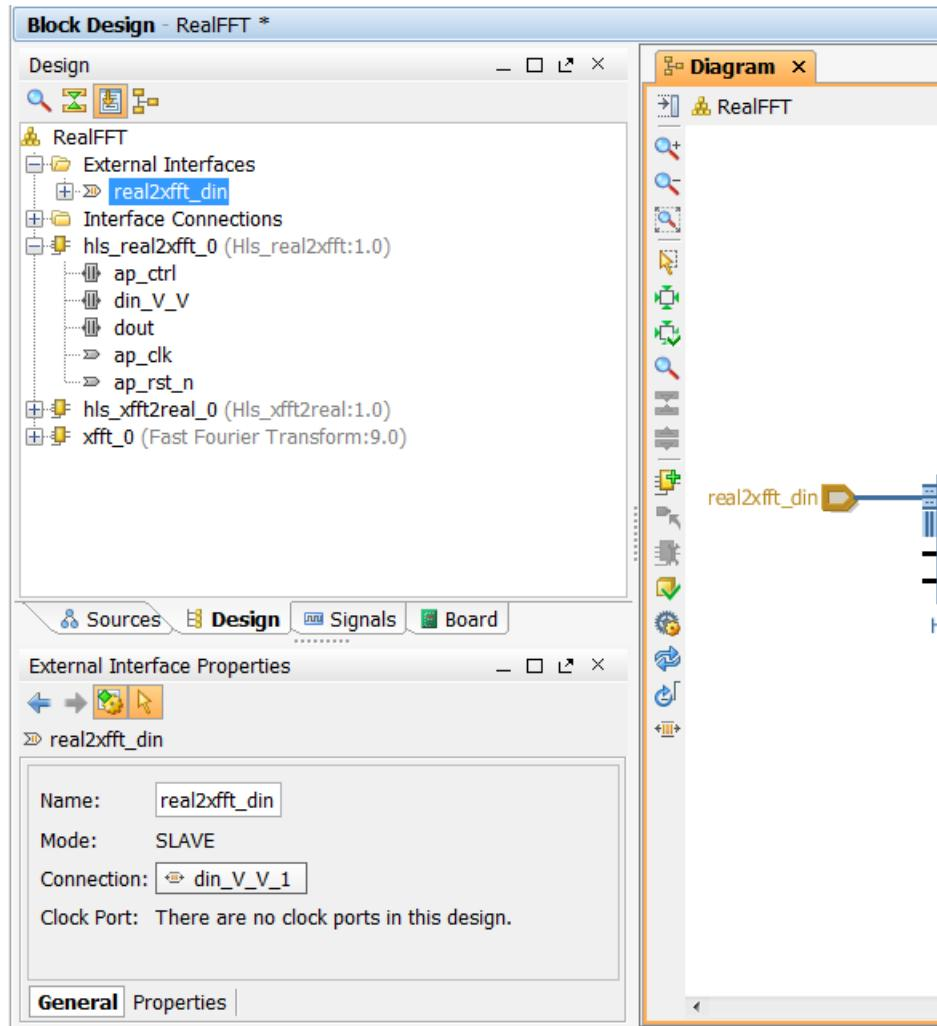

Figure 9-20: Port Naming
- In the External Interface Properties pane (Figure 9-20), click in the Name text entry box to highlight **din_V**.